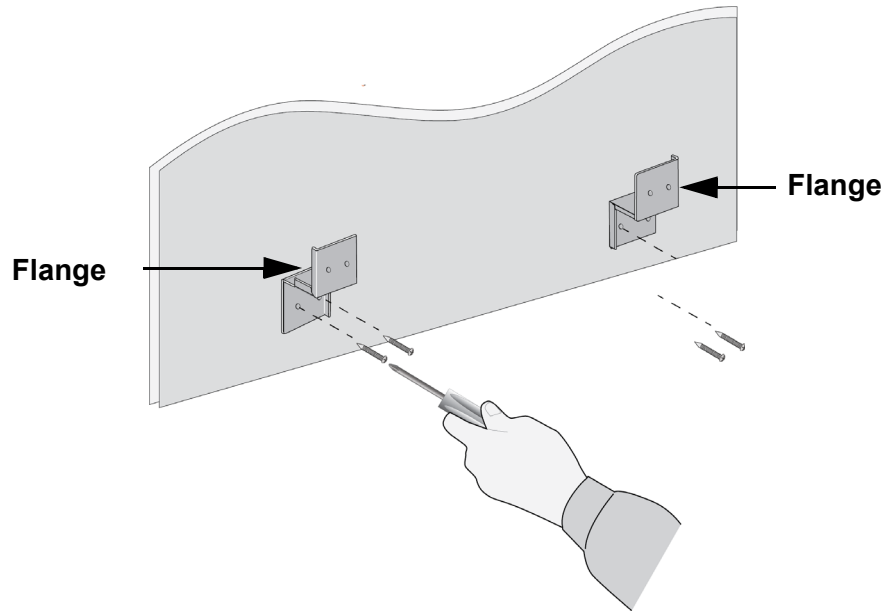

Figure 37. Attaching the Bottom BRKT-J22 Brackets to the Wall
6. Attach the bottom brackets to the wall with appropriate screws. Refer to Figure 37 on page 73. Be sure that the bracket flanges are on the outside.